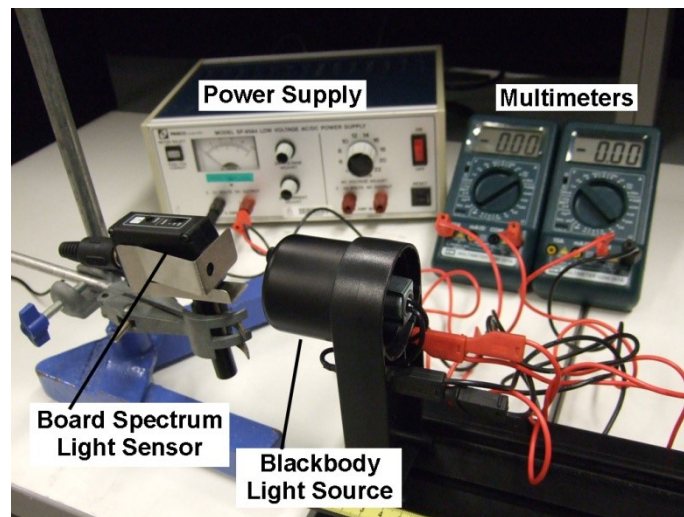

Figure 6 Experimental setup for temperature dependence of the blackbody radiation
1. Set up the light source and light sensor as shown in Fig. 6. Make sure that the shutter bracket is installed in front of the light sensor. The spring-loaded shutter bracket keeps